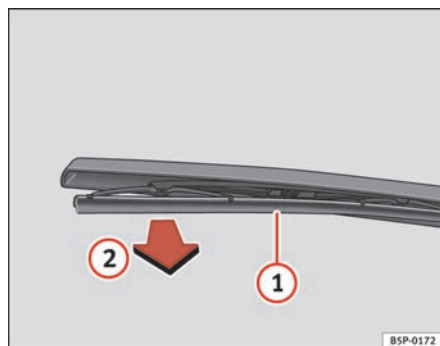

Fig. 149 Changing the rear window wiper blade
- Lift the wiper arm away from the glass ⇒ fig. 149.
- Unclip the wiper blade ① and pull ② ⇒ fig. 149.